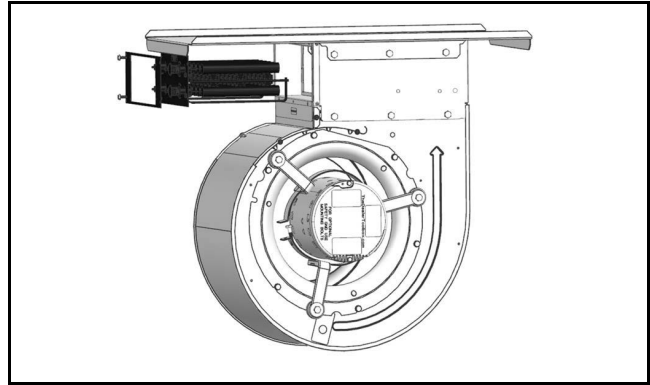

Fig. 13 Insert Heater Element
4. Insert heater element into slot within the collar, ensuring holes of the heater element align with holes of the collar. (→Refer to Fig. 13.)